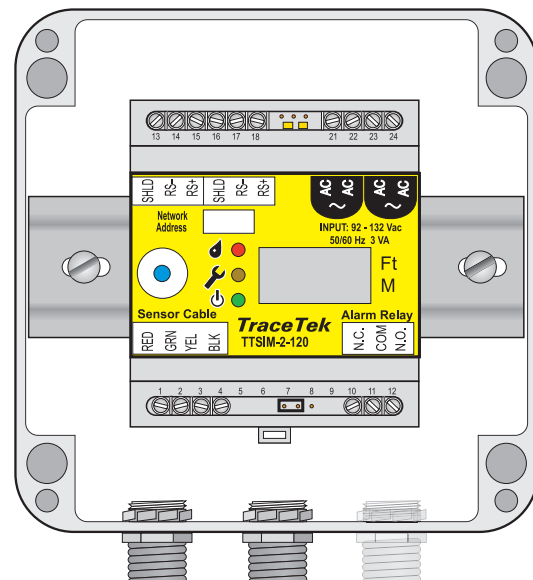

Figure 2. NEMA 4X enclosure
Mounting the TTSIM-2 module in the optional NEMA 4X Enclosure – Figure 2
- A typical outdoor or harsh environment installation will require three holes in the TTSIM-ENC: one for inbound power and telemetry, one for outbound power and telemetry and one for the sensor cable leader. See Figure 2.